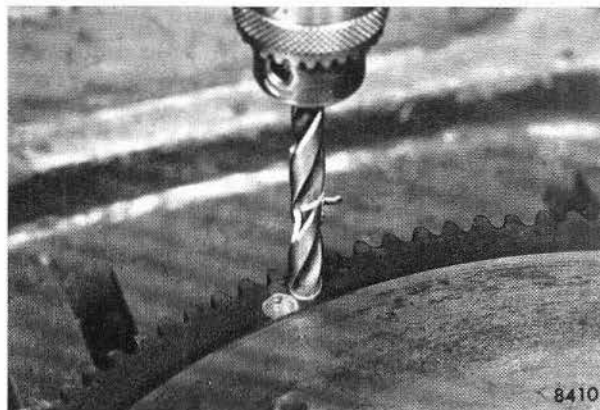

Fig. 103. Drill ring gear.
1. Centre-punch ring gear and drill two holes approximately 7 or 8 mm offset as illustrated, Fig. 103.